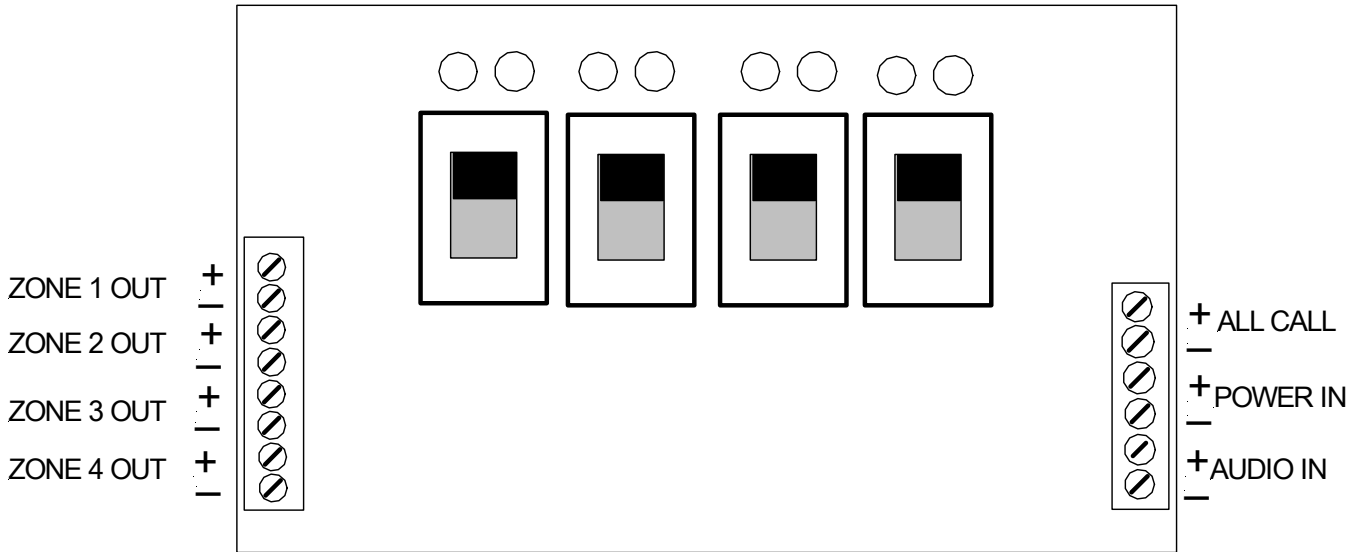

Figure 5.
2. See Figure 5 for terminal block wiring designations.